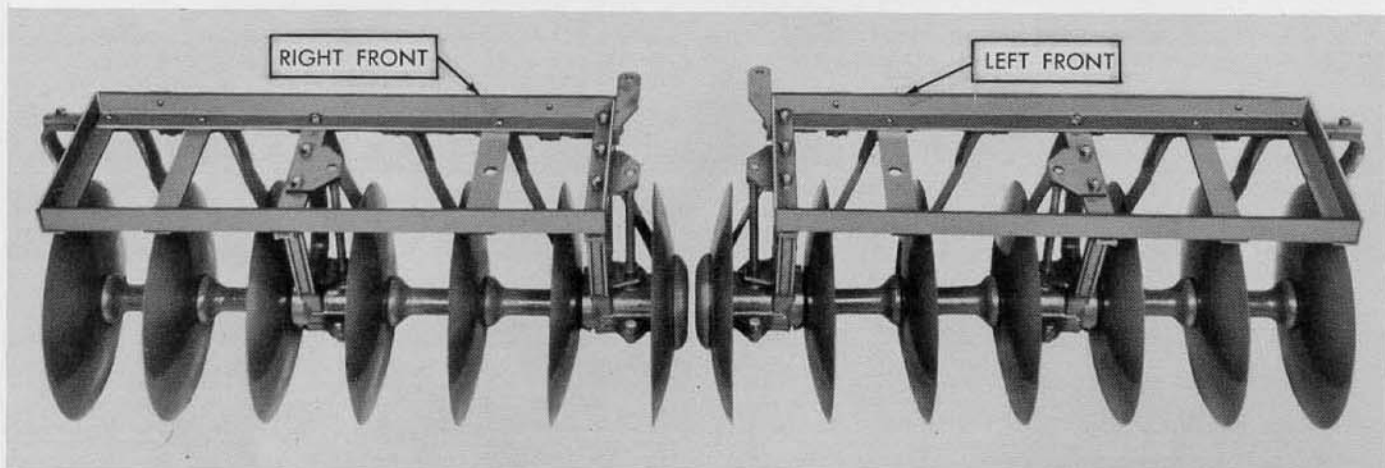

Figure 3
1. Place front disc gangs in position shown in Figure 3.